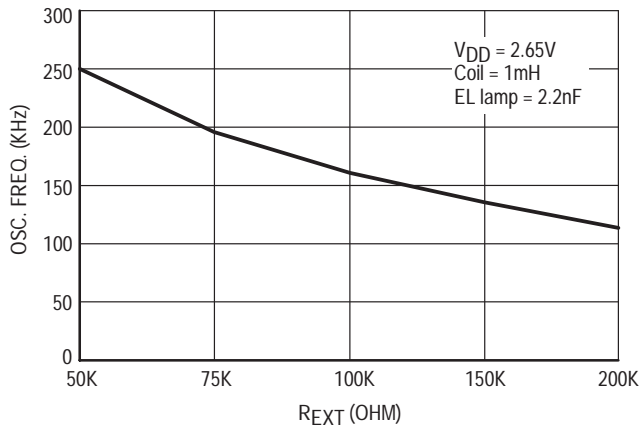

Figure 4. Oscillator Frequency vs. REXT
Since the fundamental frequency of the oscillator is set by the external resistor (R1), the temperature coefficient of the frequency is dominated by the value of this resistor. A low temperature coefficient (TC) resistor is suggested to use for keeping the variation of oscillator's frequency low against the operation temperature range. (See Page 4, Fig. 3 & Fig. 4)